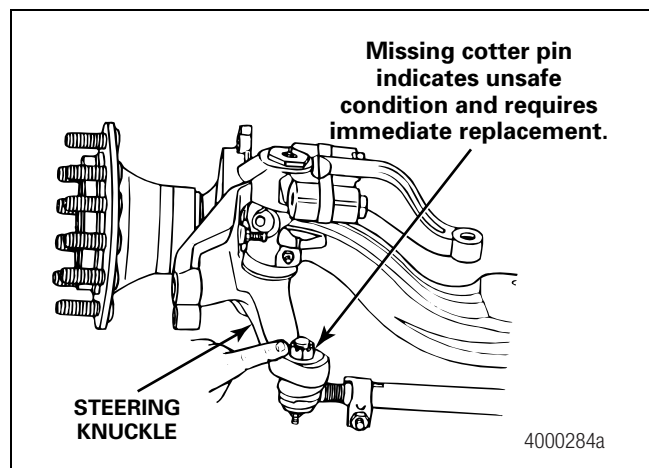

Figure 6.20
- **If the cotter pin is missing:** Tighten the tie rod end nut to the correct specification. Install a new cotter pin. Always tighten the tie rod nut to the specified torque when setting the cotter pin. Do not back-off the nut to insert the cotter pin. Figure 6.20.